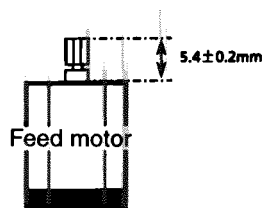

Fig. 14 Press-in dimensions of feed motor gear
2. Press in the gear to the feed motor as indicated in Fig. 14.